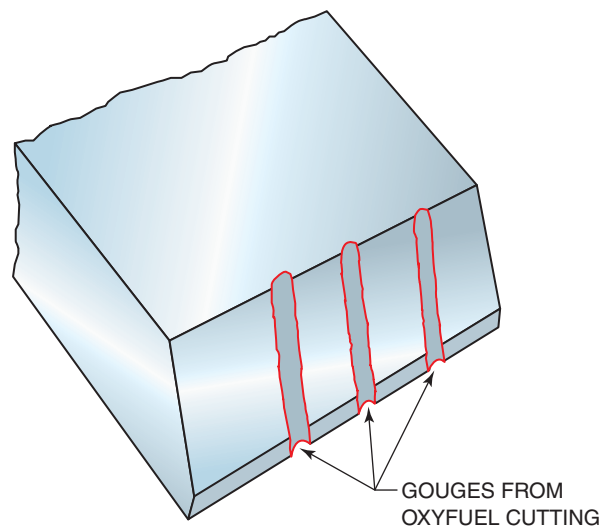

Figure 9.9 Gouge removal
- improper edge preparation—Not removing any notches or gouges in the edge of the weld joint. For example, if a flame-cut plate has notches along the cut, they could result in a lack of fusion in each notch, Figure 9.9.